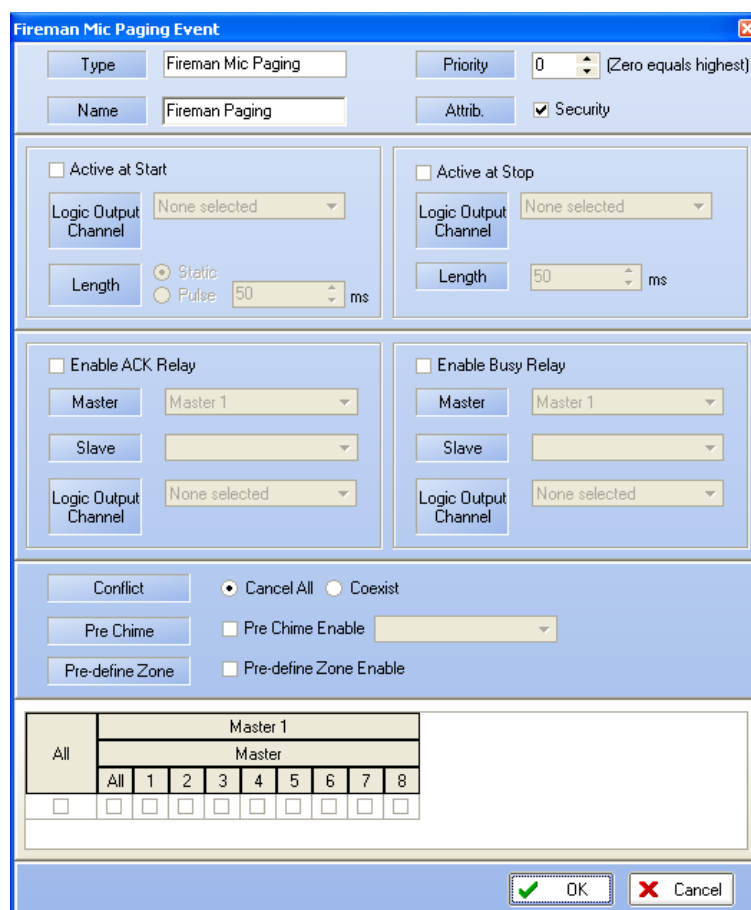

Figure 19: Paging Event window
- As for music, the event corresponding to the fireman microphone is automatically created. Click “Edit”. A new pop-up window opens (Figure 19).